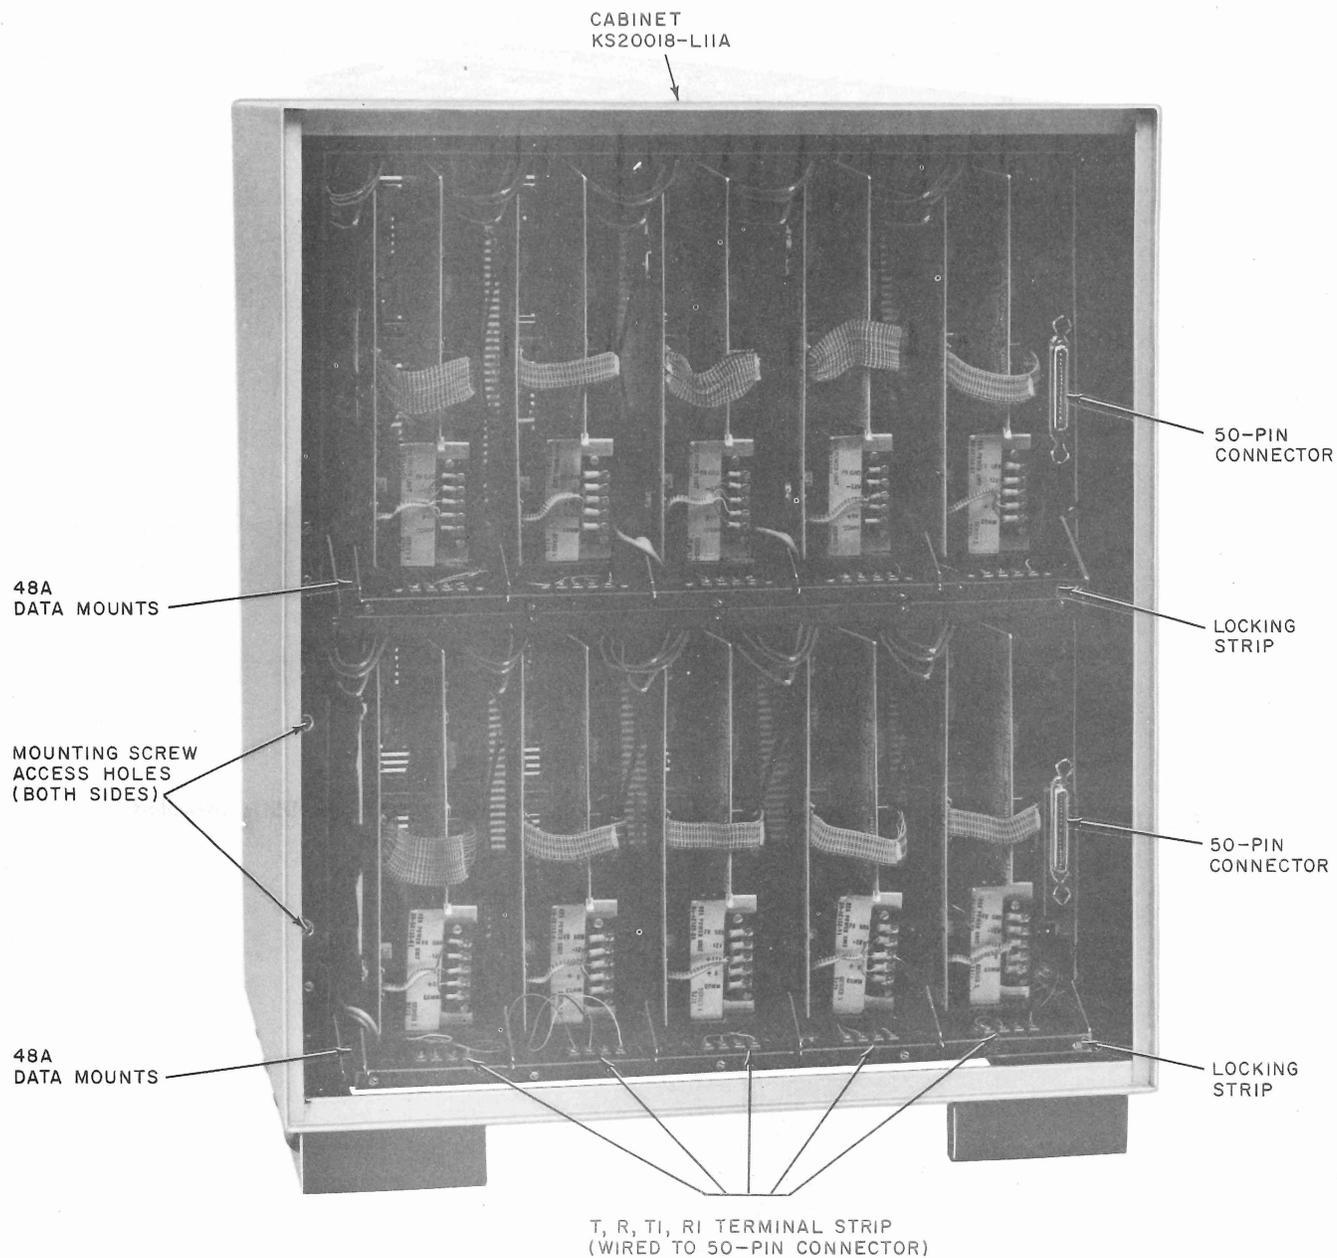

Fig. 12—Rear View—KS-20018-L11A Cabinet
(7) Insert the DSU (connector side first) into the rear of the data mounting by sliding the bearing plates into the slots in the upper and lower metal strips (Fig. 12 and 13). Make sure the switch and LED assembly clear the opening as the DSU is inserted.
(8) Secure the DSU by moving the lock strip to its leftmost position and tightening the lock-strip screw.
(14) Access to the tip and ring connections is made via the KS-16786-L4 (50-pin) connector located on the right side of the mounting (Fig. 12).